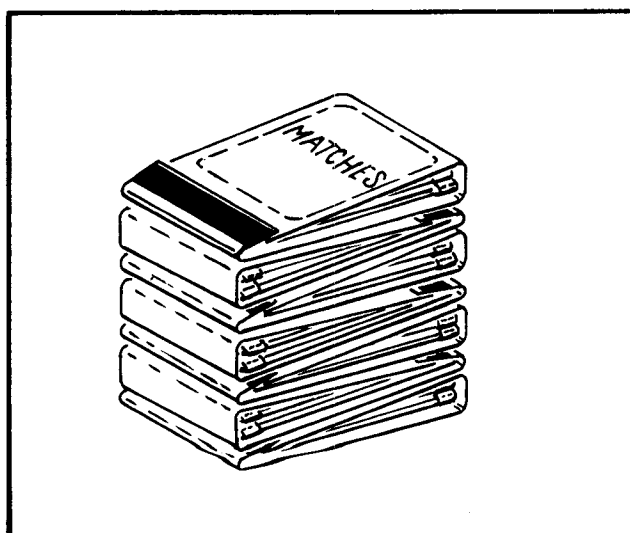

FIGURE 7
25. Load each of the Columns of the Book Match Magazine to its maximum capacity. Load the Match Books from the top of the Columns with the flap side up and the thick end of every other layer of Match Books facing forward. The alternate layers of Match Books must have the flap side up and the thin end of the Match Book facing forward. See Figure 7 for proper orientation of Book Match Packs. The maximum capacity of the Match Book Magazine is 460 Match Books. The maximum capacity loading is required for the test in step I-B. After the proper operation of the Book Match Assembly has been proven the Columns need only to be loaded to the capacity the operator desires to load them.